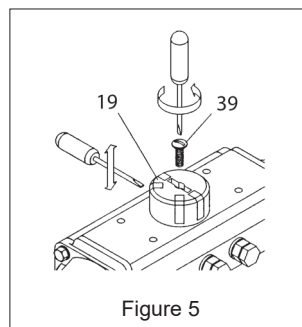
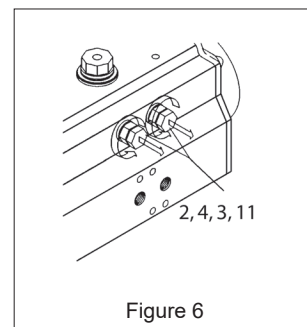

Figure 5
Figure 6
1. **Removal of Position Indicator (19, 20) (Figure 5):**
- a) Remove cap screw if fitted (39).
- b) Lift position indicator (19) off shaft; it may be necessary to pry gently with a screwdriver.
2. **Removal of Stop Cap Screws (02), (Figure 6):**
- a) Remove both stop cap screws (02) together with nut (04) and washer (03).
- b) Remove stop screw o-rings (11) and discard if replacing all soft parts.